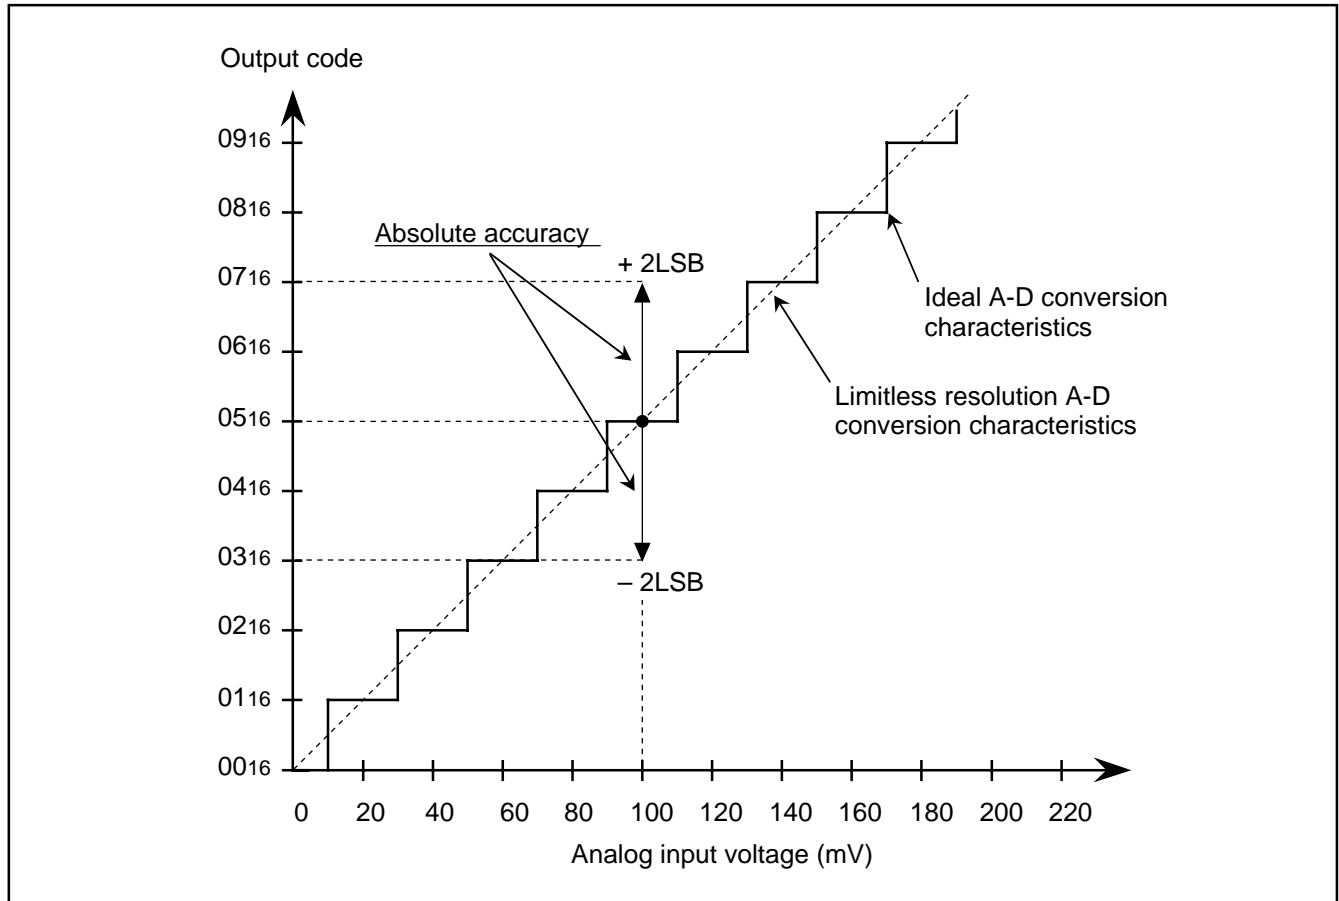

Fig. 8.8.4 Definition of A-D Conversion Accuracy
The definition of A-D conversion accuracy is described below (refer to Figure 8.8.4).
**Note:** The analog input voltage "Vn" at which A-D conversion output data changes from "n" to "n + 1" (n ; 0 to 254) is as follows (refer to Figure 8.8.4) :